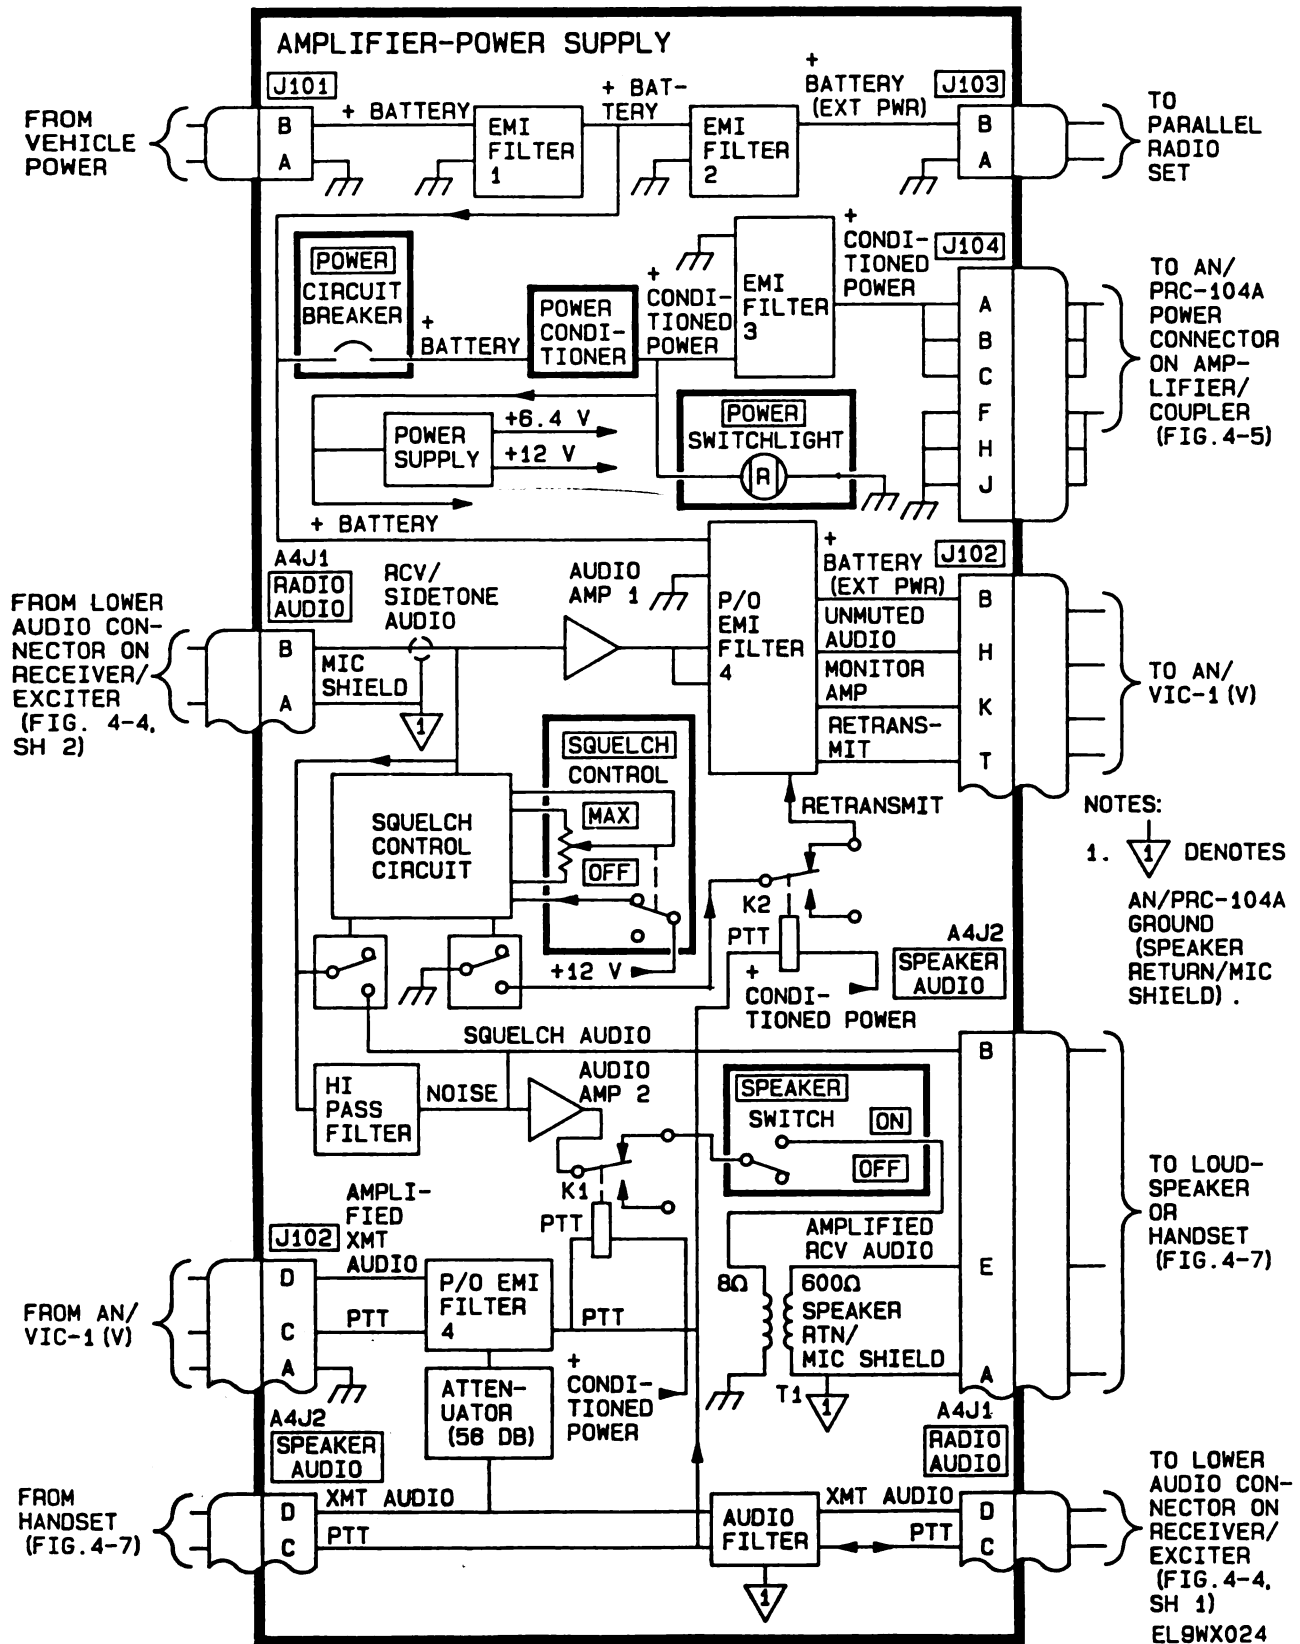

Figure 4-6. Amplifier-Power Supply Functional Schematic
c. *Amplifier/Power Supply.* (See fig. 4-6.) Amplifier-power supply signal routing and conditioning are illustrated in figure 4-6. A discussion of the signals is contained in the following paragraphs.